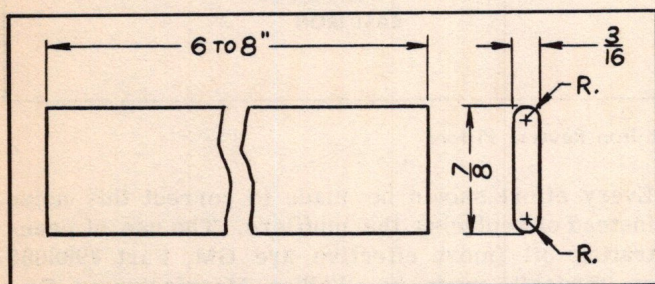

Fig. 3 Special Support Clamp Forming Tool
a. Make a special tool from steel stock as shown in Fig. 3.